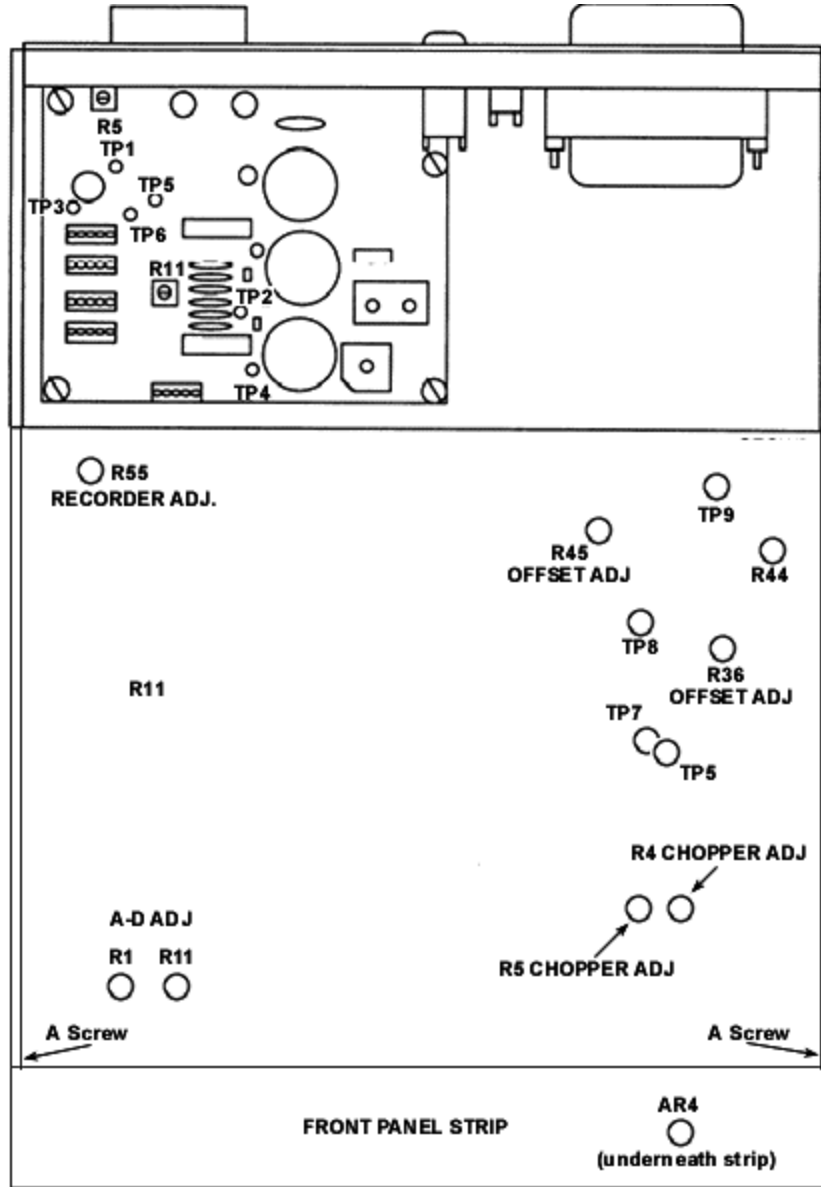

Figure 1. Adjustment locations - bottom view.
(1) Remove two screws (A) and remove front panel strip (fig. 1).
(2) Adjust AR4 (fig. 1) so that calculated **PWR REF** output power is 1 mW as calculated in (7) through (12) above (R).